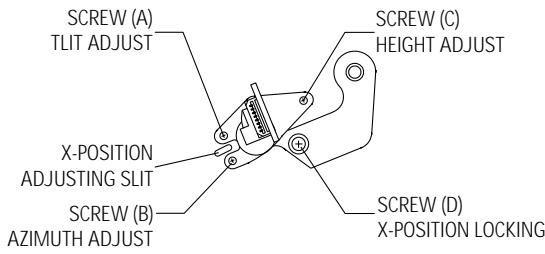

Fig. 5-6 Location of ACE Head Adjustment Screw
(Refer to Fig. 5-6 and 5-7)
- 3) Adjust screw (B) to achieve maximum audio level. (See Fig. 5-6)